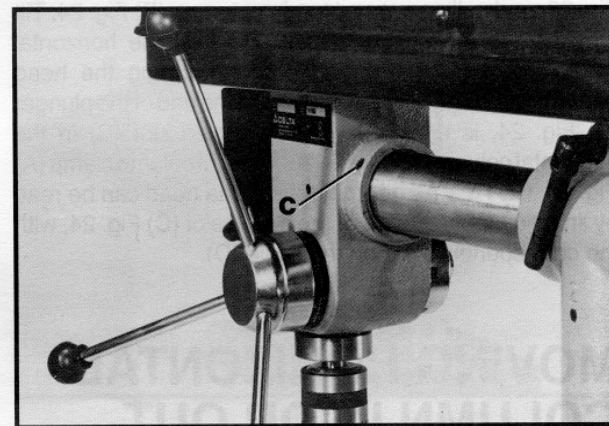

Fig. 28
4. If an adjustment is necessary, loosen the two screws, one of which is shown at (C) Fig. 28, that attach the head to the horizontal column. Tilt the head until the drill bit is 90 degrees to the table and tighten the two screws, one of which is shown at (C) Fig. 28.